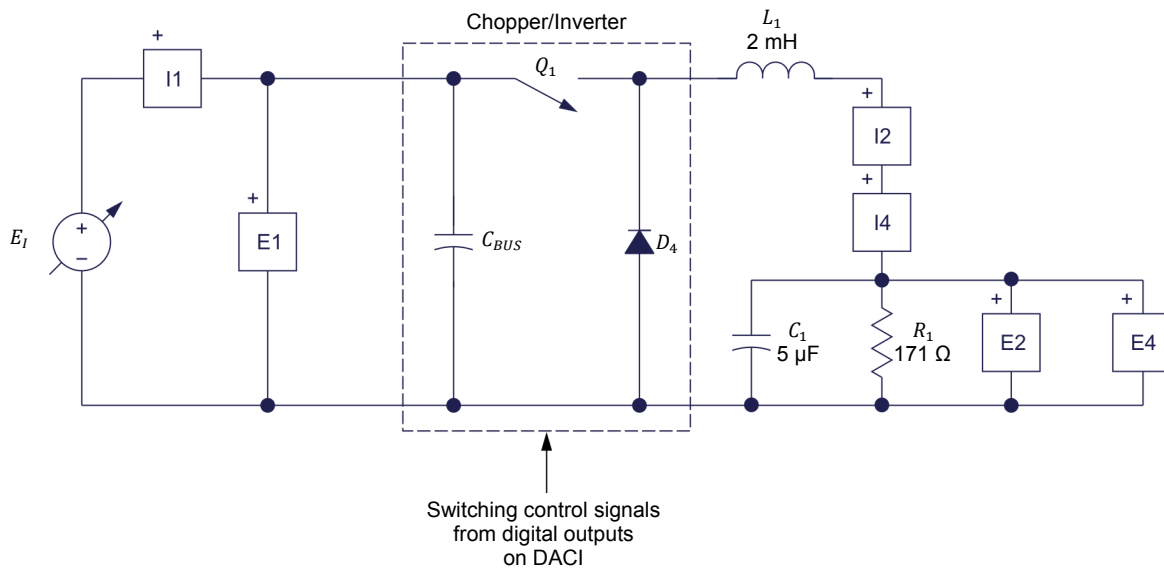

Figure 44. Circuit used to observe voltage and current regulation.
7. Set up the circuit shown in Figure 44. In this circuit, inputs *E4* and *I4* are used by *LVDAC-EMS* as feedback inputs for the buck chopper. Note that when inputs *E4* and *I4* are used by *LVDAC-EMS* as feedback inputs, they are no longer available for the *LVDAC-EMS* instrumentation, i.e., the *Metering*, *Oscilloscope*, *Phasor Analyzer*, and *Harmonic Analyzer*. Other voltage and current inputs of the DACI must be used to measure and observe the voltage and current sensed by inputs *E4* and *I4*.